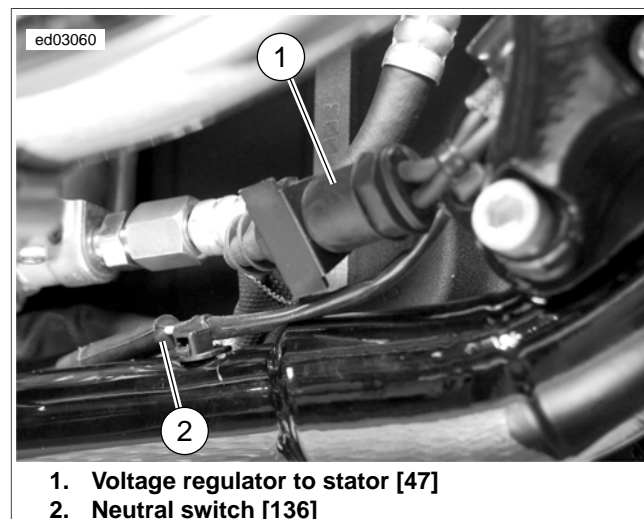

Figure 4-10. Lower Right Front
See Figure 4-10. The neutral indicator is controlled through the (TN) wire connected to the TSM, TSSM or HFSM and the